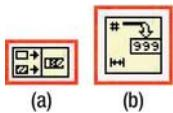

Figure 10-12. (a) The Concatenate String Function, and (b) the Number to Decimal String Function
- *Concatenate String*—This function is used to combine two or more strings (see Figure 10-12(a)).
- *Number to Decimal String*—This function converts a numerical value to a string value (see Figure 10-12(b)).